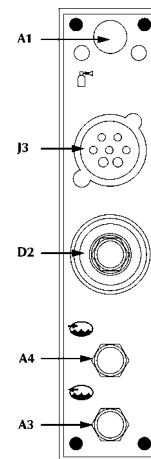

Fig. 9
- Connect the cable bundle to the socket D2 / J3 (fig. 9) and the pipes of the cooling liquid, if used, to the sockets A3 / A4.
- Connect the gas pipe to the 1/4" rear fitting (fig. 9).